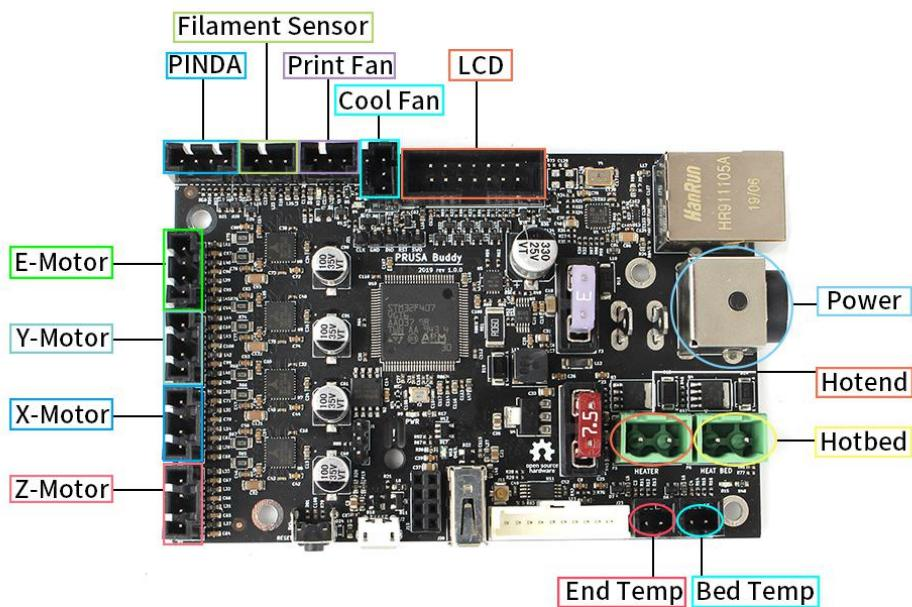

Figure 4.2.9
**Step 4-2-9:** Insert the cables of the existing X-axis module and Z-axis module into the corresponding ports on the motherboard as shown in Figure 4.2.9.